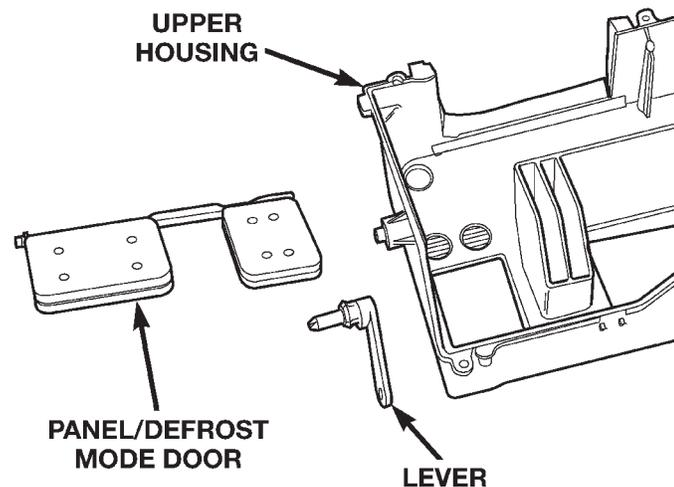

Fig. 63 Panel/Defrost Door
(11) Pinch the retention tabs holding the panel/defrost door pivot shaft to the case. The 3 plastic tabs, located on the inside of the case, are part of the shaft retainer (Fig. 63).